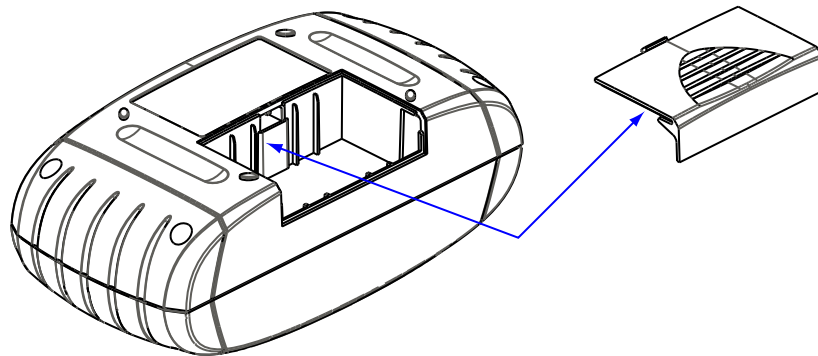

Figure 3-1 Battery cover removal
2. Pivot the cover up slightly and lift it off of the unit (Figure 3-1).